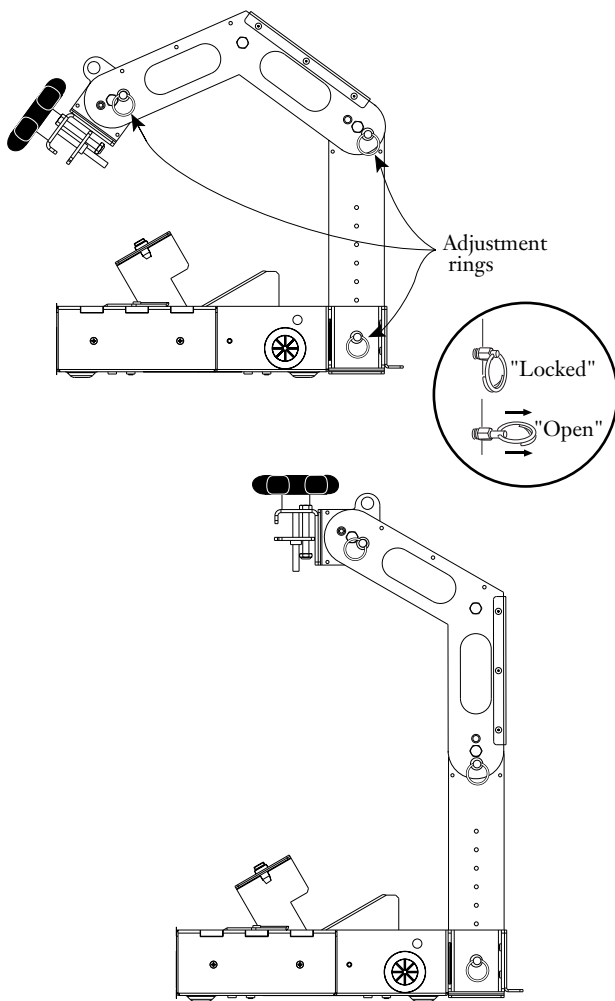

Figure 17
6.2 If necessary, use the spring-loaded adjustment rings to extend the arm to its primary working position (Figure 17). To use the adjustment rings: